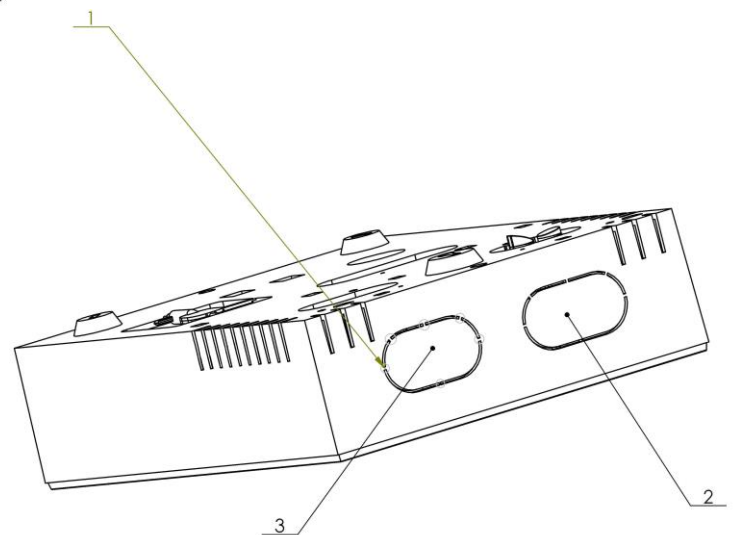

Fig.6
- The external opening, located on the topside of the cabinet are dedicated for surface mounting of the signal line (fig.6, pos.2) and mains power line (fig.6, pos.3);